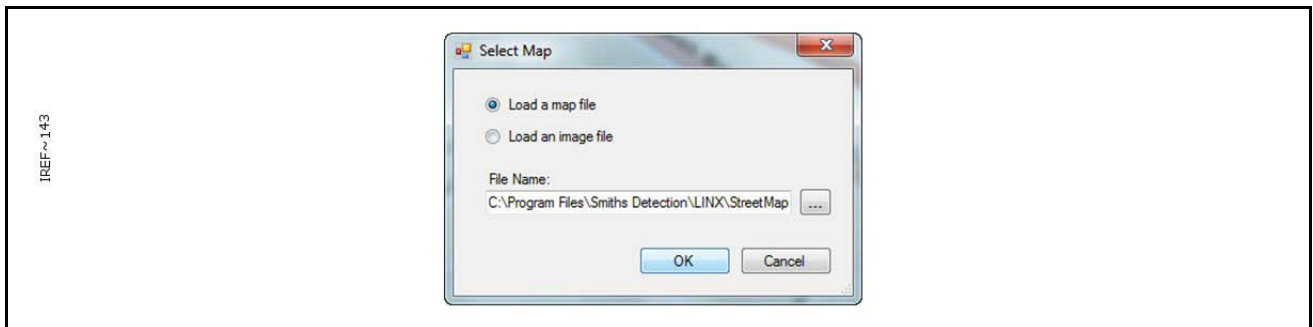

Figure 29 Map / Image file dialog
- 15 Choose between opening a map file and opening an image file (see Figure 29). For further information on maps see para 3.4.1.5.